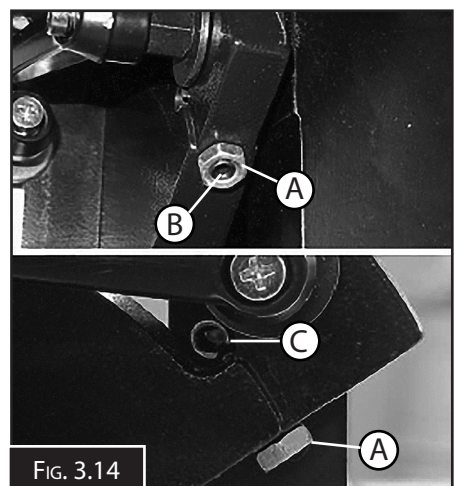

FIG. 3.14
2. Loosen the locknut ("A" in Fig.3.14)
3. Adjust the stop screw ("B" in Fig.3.14) until it is hard up against the dead stop ("C" in Fig.3.14)